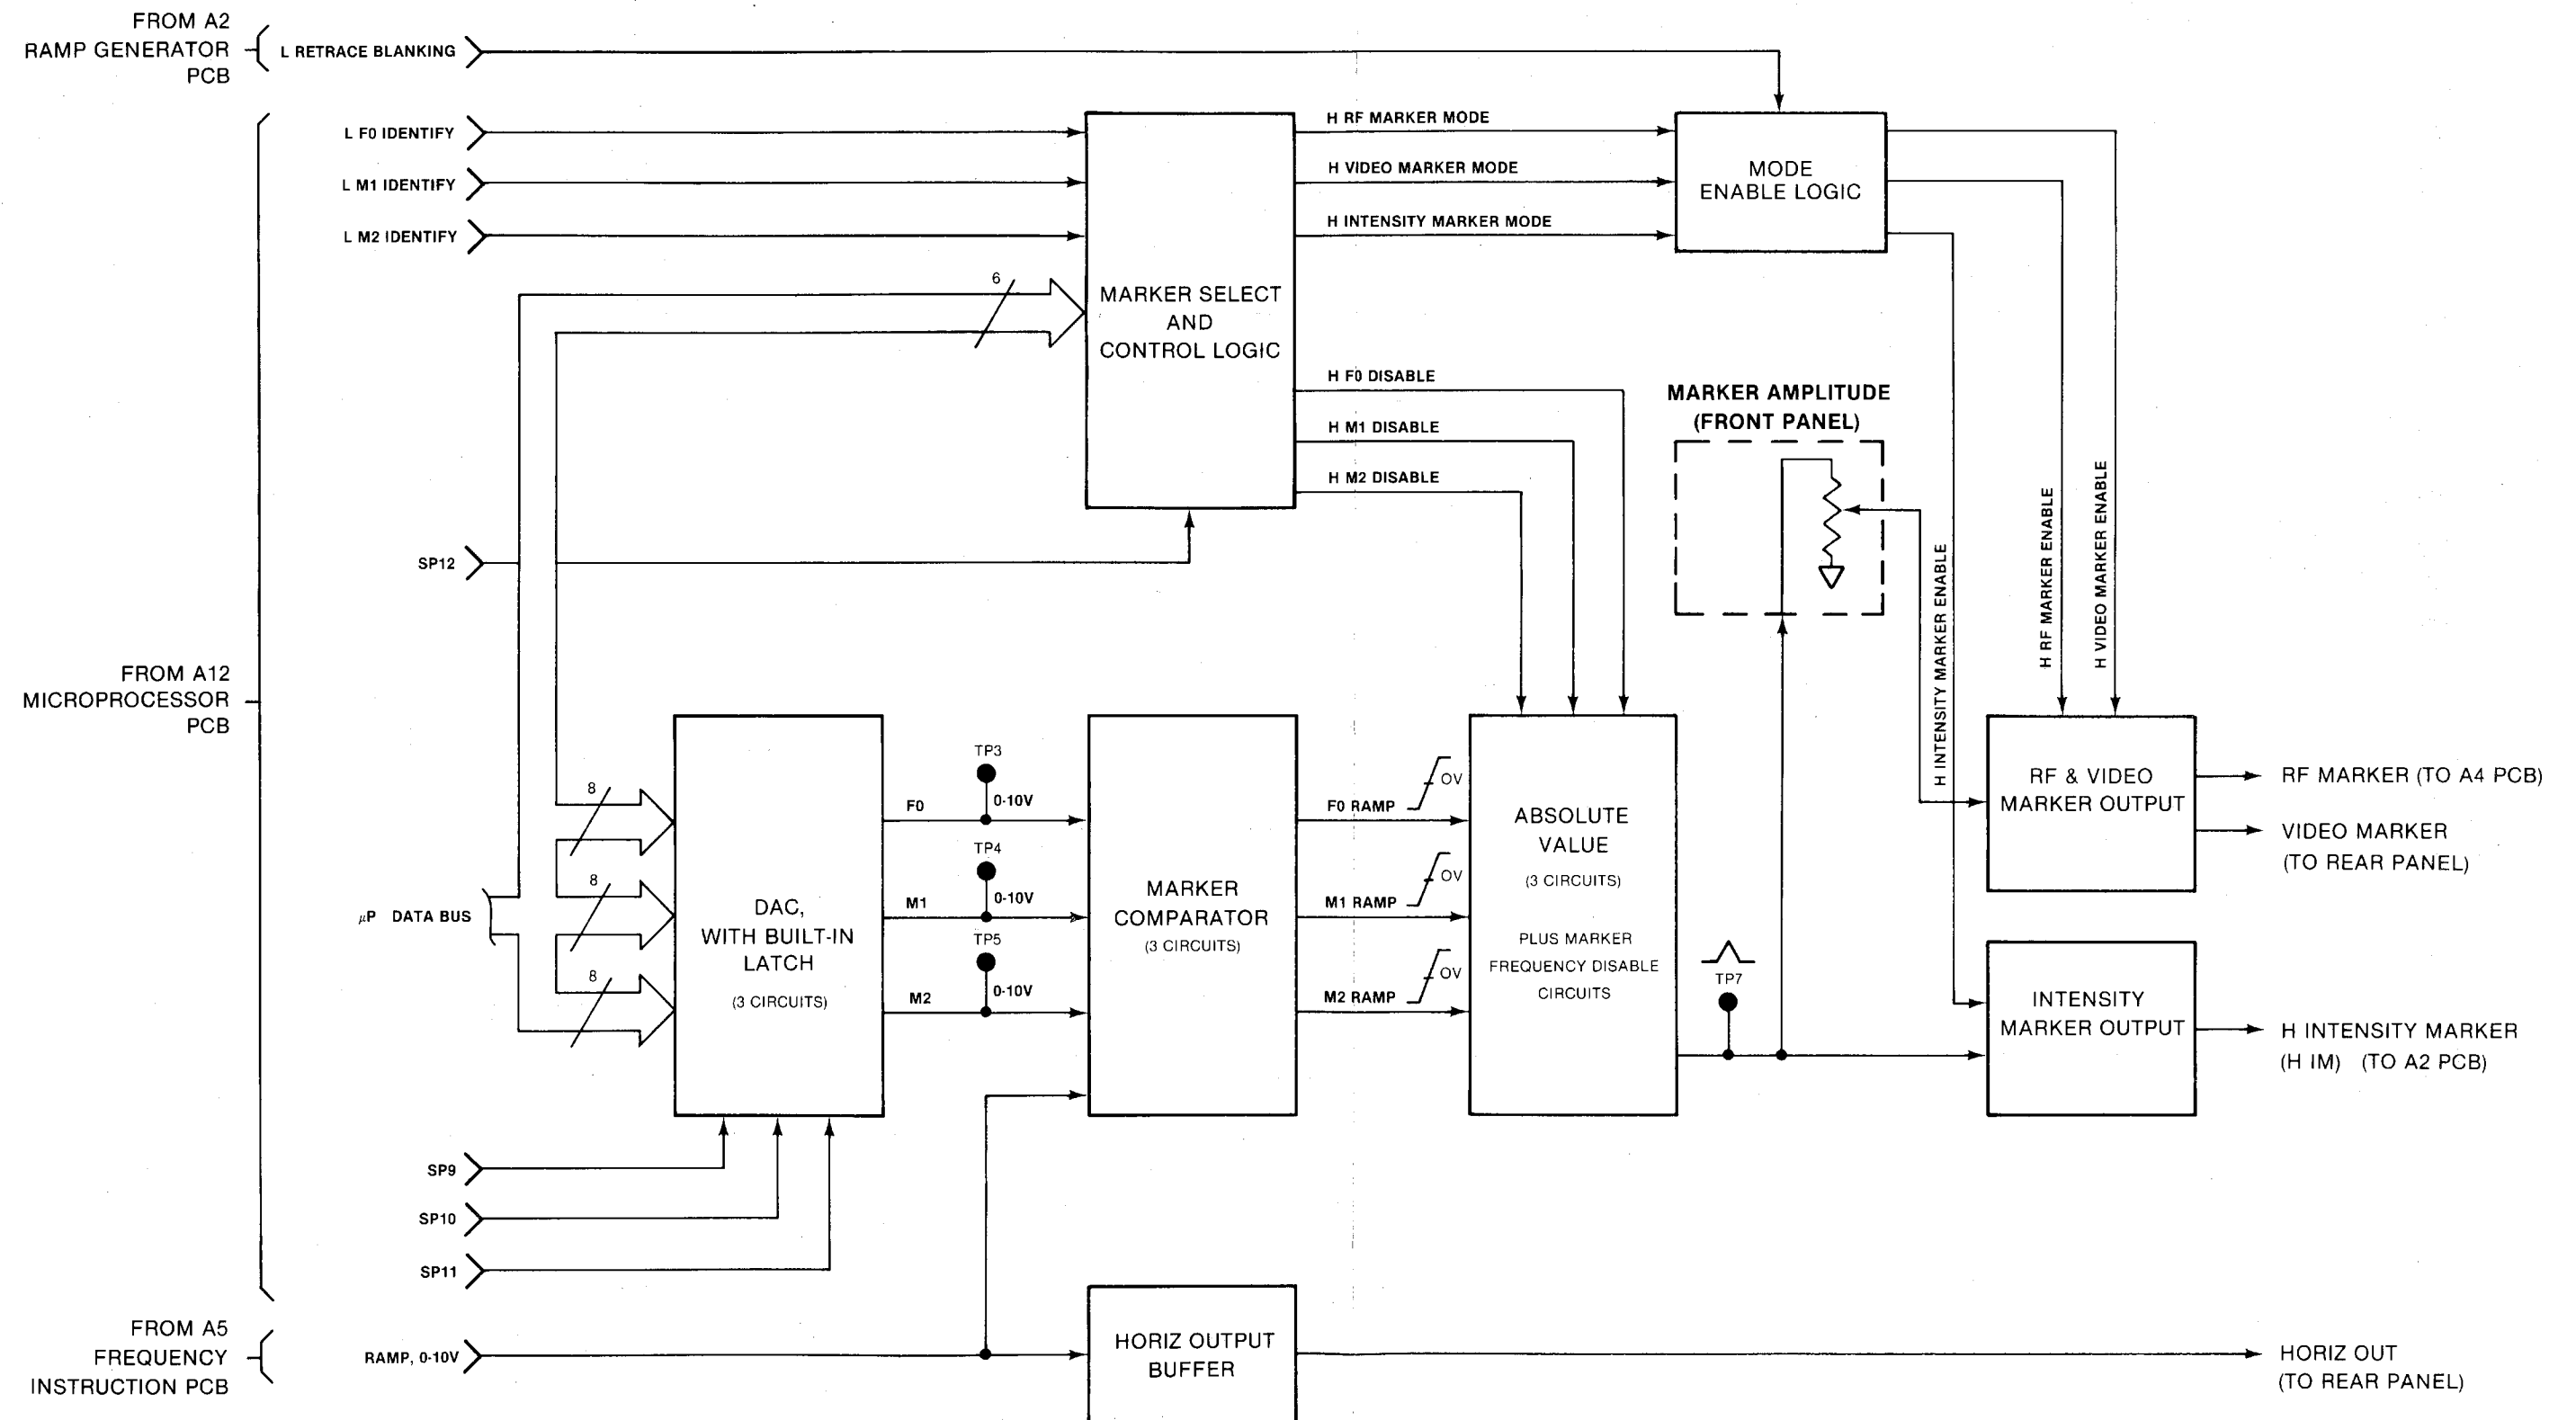
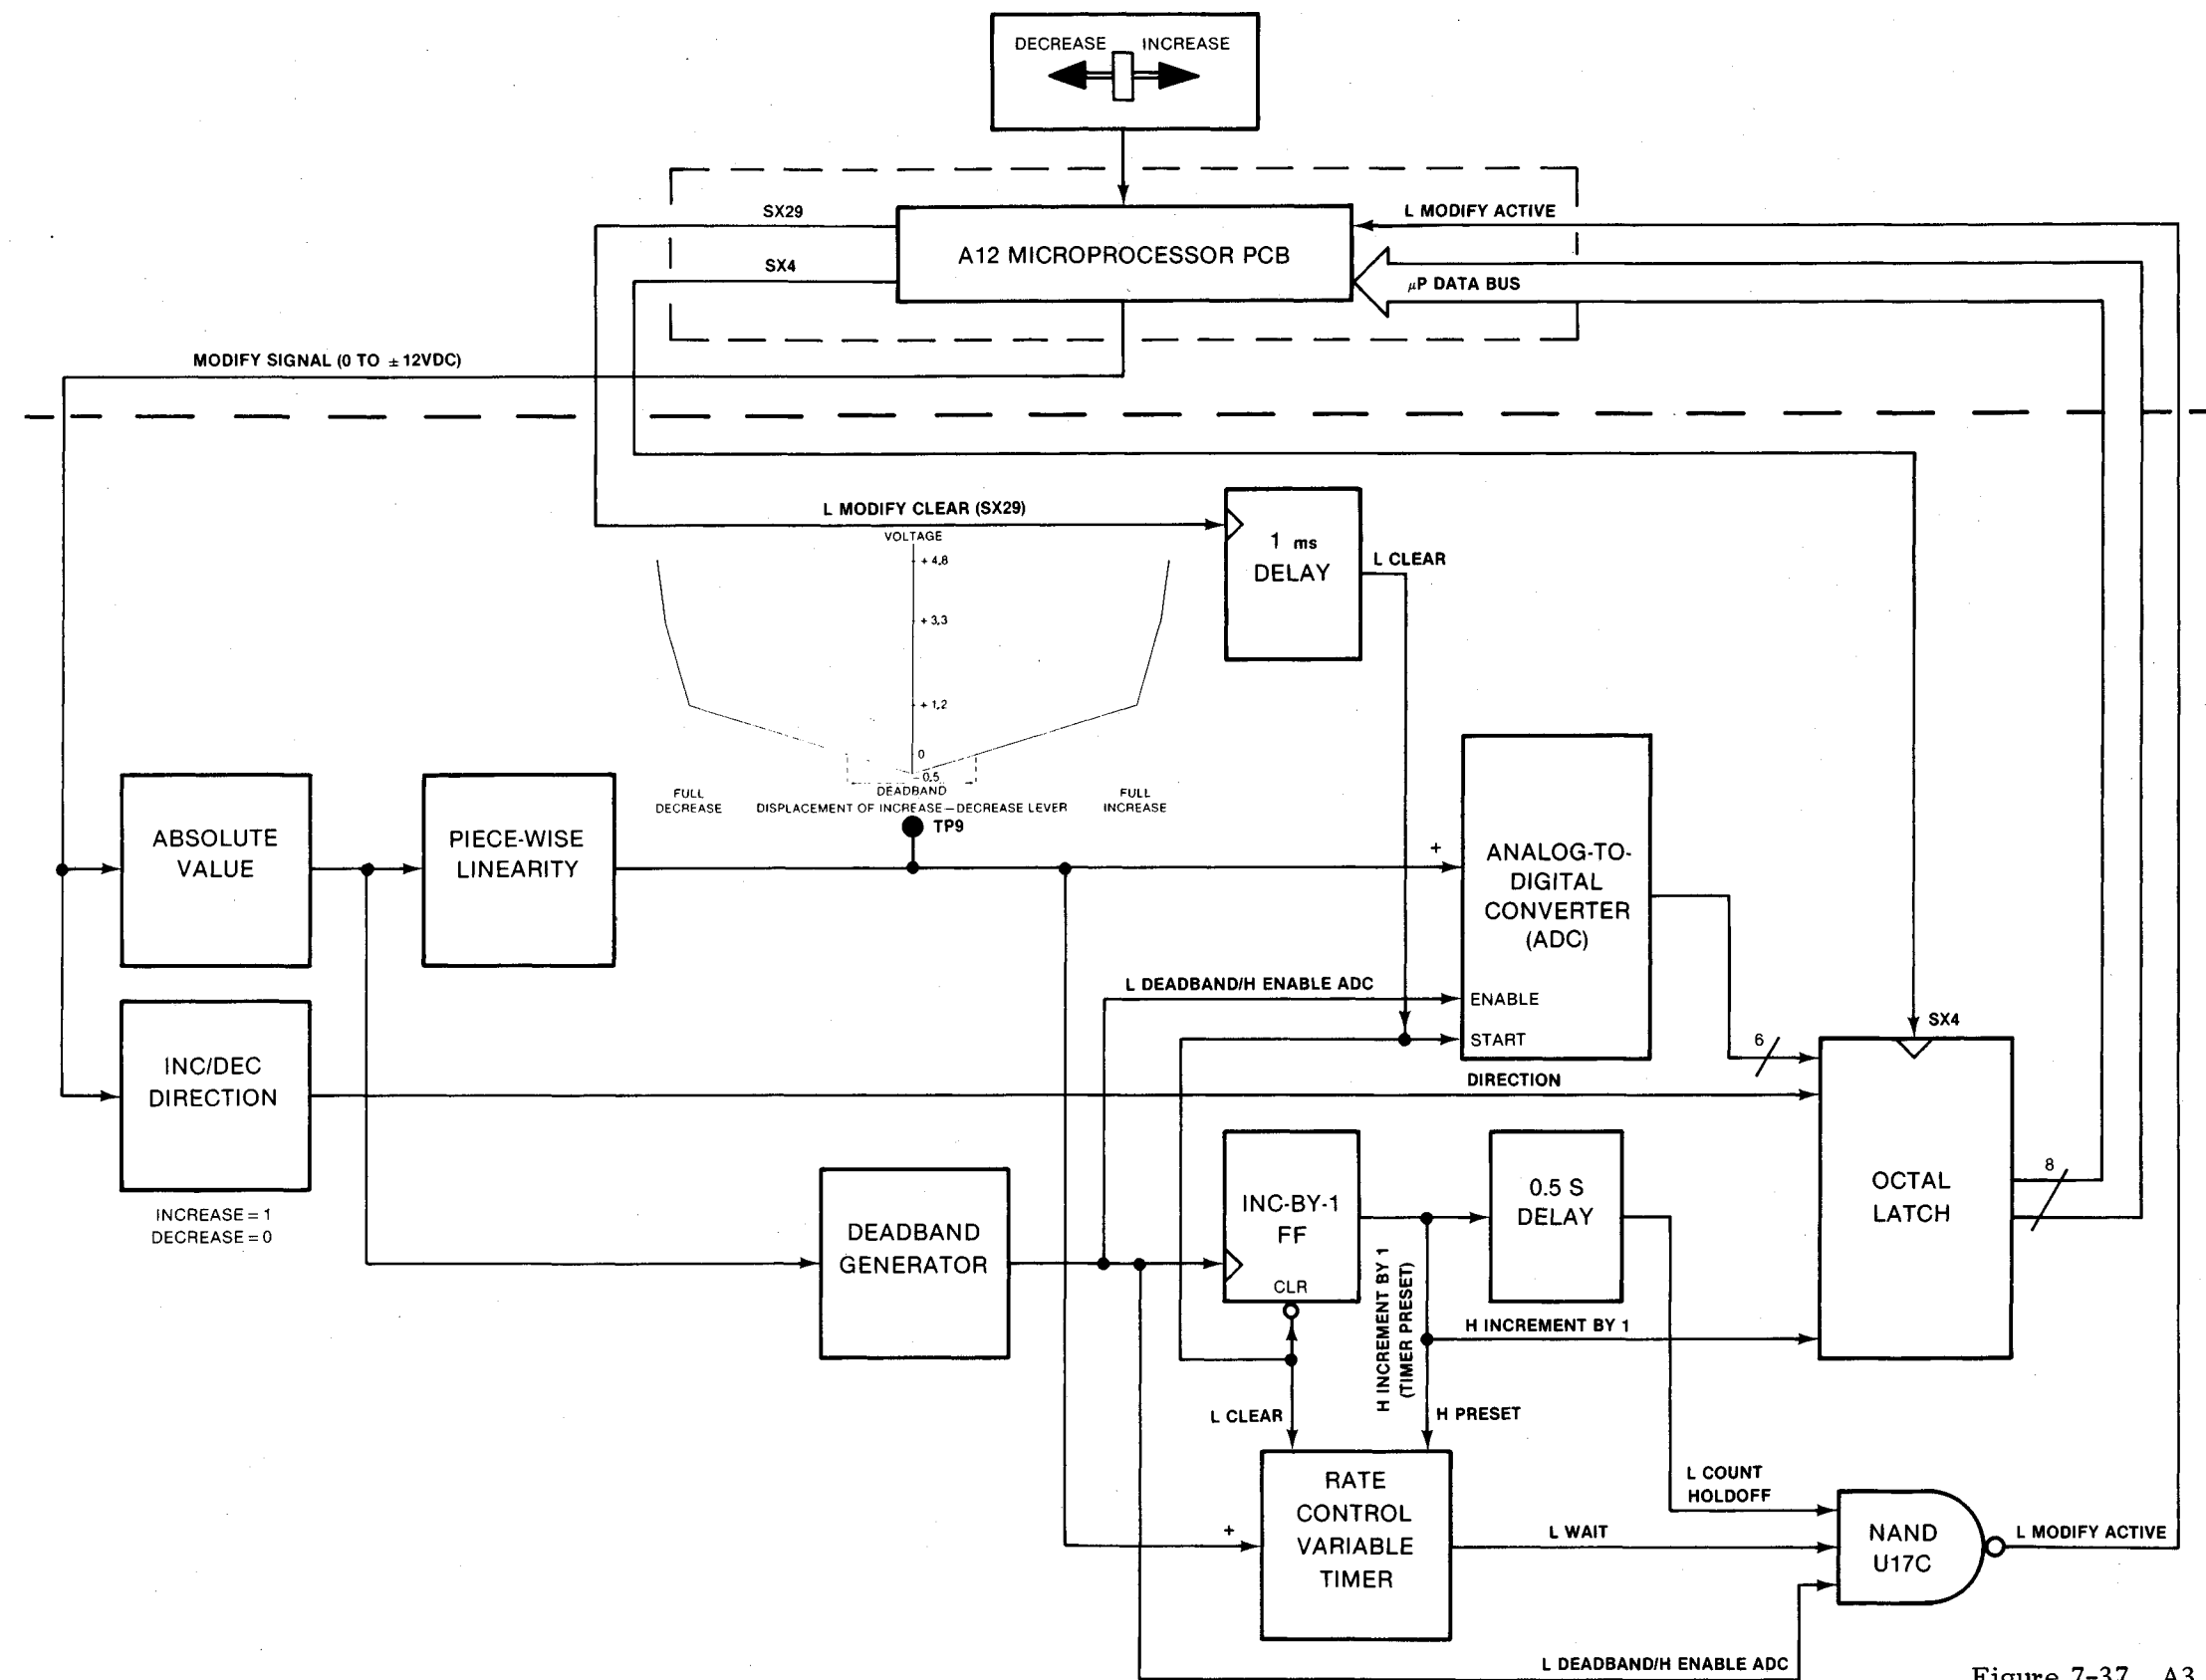

Figure 7-36. A3 PCB Marker Generator
Figure 7-37. A3 PCB INCREASE/DECREASE Logic Circuit Functional Block Diagram
The A3 Marker Generator PCB generates the RF, Video, and Intensity markers. In addition, the PCB also contains the logic circuitry associated with the front panel INCREASE/DECREASE lever. A functional diagram of the marker generator circuitry is shown in Figure 7-36, and a similar diagram for the INCREASE/DECREASE lever logic circuitry is shown in Figure 7-37. The A3 PCB schematic diagram (4 sheets) is contained in Figure 7-38, and the circuits are described below.
a. Marker Generator Circuits. As shown in Figure 7-36, the inputs to the Marker Generator are a 0-10V sweep ramp from the A5 PCB and the retrace blanking control line from the A2 PCB, plus the data bus and several control lines from the A12 PCB. The 0-10V sweep ramp (**RAMP, 0-10V**) may be either the **RAMP OUT** signal from the A2 PCB, the **MAN SWEEP INPUT** from the front panel, or the Step Freq DAC signal (paragraph 3-7.2) from the A5 PCB. The inputs from the A12 PCB are as follows:
The first function the circuit performs is to increase or decrease the selected parameter's value in one-increment steps. As shown in Figure 7-37, the INCREASE/DECREASE lever logic circuitry is connected in a control loop with the A12 Microprocessor PCB. The INCREASE/DECREASE lever itself is connected to the A12 PCB. This lever controls, via circuitry on the A12 PCB, the voltage level of the **MODIFY SIGNAL** input line to the A3 PCB. When the lever is moved from its center position, the **MODIFY SIGNAL** line's voltage value is between either 0 and -12 Vdc or 0 and +12 Vdc. The voltage's polarity and value depend on the direction and length of INCREASE/DECREASE lever displacement. Displacement in the DECREASE direction yields a positive voltage, and displacement in the INCREASE direction yields a negative voltage. This 0 to ± 12 Vdc voltage goes to two places on the A3 PCB: the Absolute Value and the Inc/Dec Direction circuits.